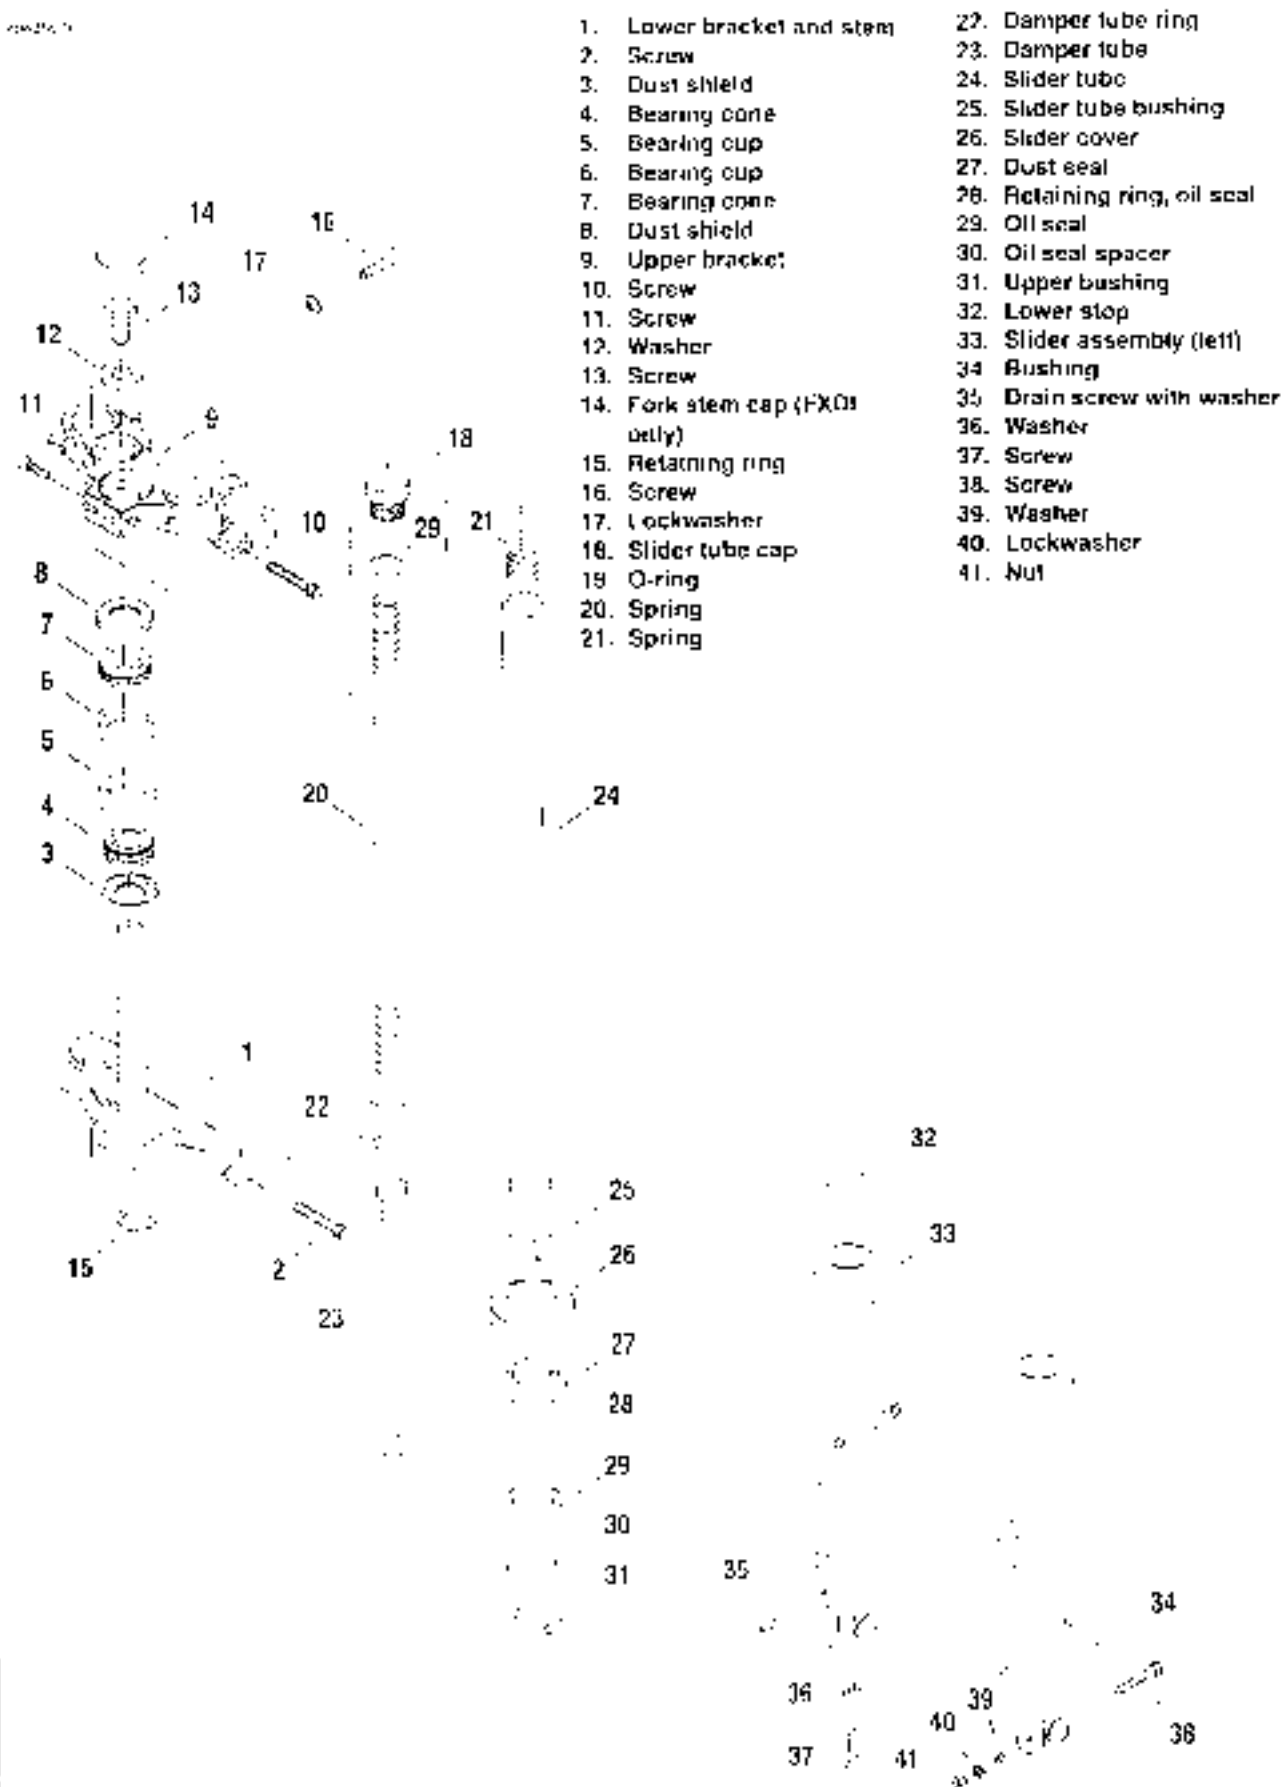

Figure 2-85. Front Fork: FXD and FXDL
4. See Figure 2-85. Loosen screws (2, 10). Do not remove tube caps (16). Slide fork sides downward clear of fork sliders (1, 9).
1. See Figure 2-85. Remove drain screw (35) from slider. Remove tube cap (18) and drain fork oil.
2. Remove O-ring (19) from inner groove in tube cap. Pull spring (20) out of fork tube (24).
3. Remove cover (26), dust seal (27), then compress internal retaining ring (28) and remove the ring from the internal groove at the top of slider (33).
4. Using an Allen wrench, remove screw (37) along with washer from the bottom end of fork slider. Damper (23) and tube (24) can now be removed from fork side.
1. See Figure 2-85. If removed, install new lower bushing (25), expanding the bushing only enough to fit over slider tube (24). Slide the bushing into its groove with bushing opening oriented to the side. 2. Place spring (20) on damper tube (23), insert damper tube into fork tube. 3. Insert spring (21) into fork tube, tapered end down, and push damper tube through the opening at the bottom end of the fork tube. Place stop (32) over end of damper tube.